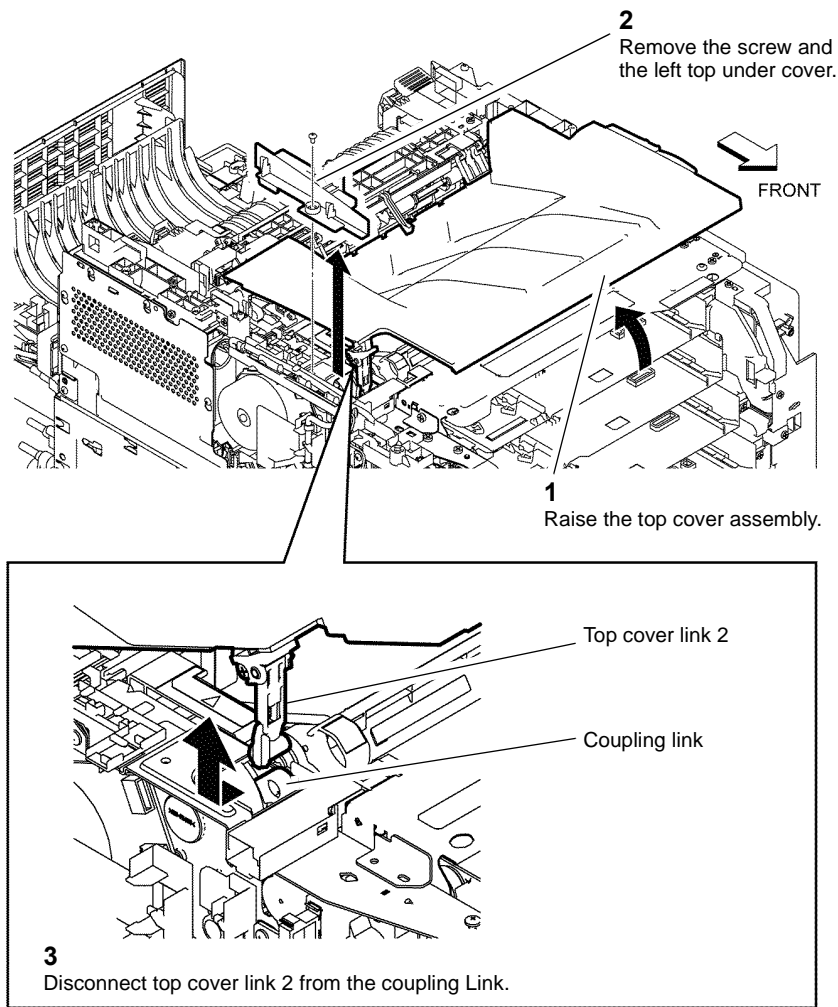

Figure 1 Preparing the top cover assembly C400
6. Prepare to remove the top cover assembly, Figure 1.